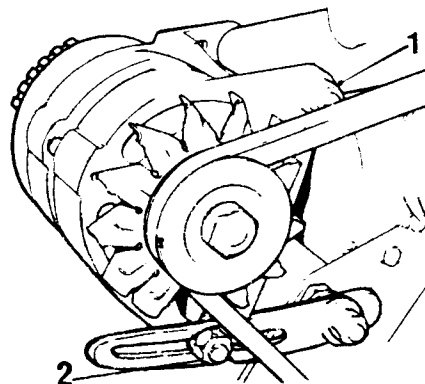

Fig O4.2
- (1) Refer to Fig O4.2. Slacken the nuts (1) securing the alternator to the mounting bracket.
- (2) Slacken the fixings (2) at the adjustment link.
- (3) Pivot the alternator inwards or outwards as necessary and adjust until the correct tension is obtained. Tighten the bolt on the top of the adjustment link.
- (4) Tighten the remaining fixings.
- (5) Recheck tension and readjust if necessary.